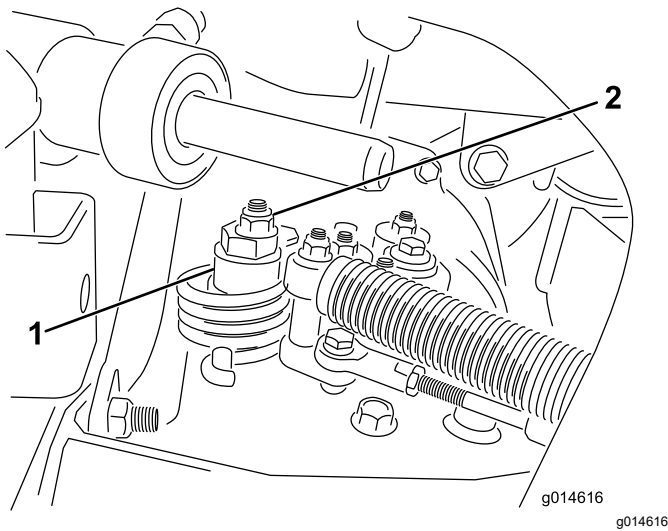

Figure 47
- A. Loosen the nut securing the eccentric to the top of the hydrostat (Figure 47).
- C. Rotate the eccentric until creep does not occur in either direction. When the wheel stops rotating, tighten the nut locking the eccentric and the adjustment (Figure 47). Verify the adjustment with the throttle in the SLOW and FAST position.